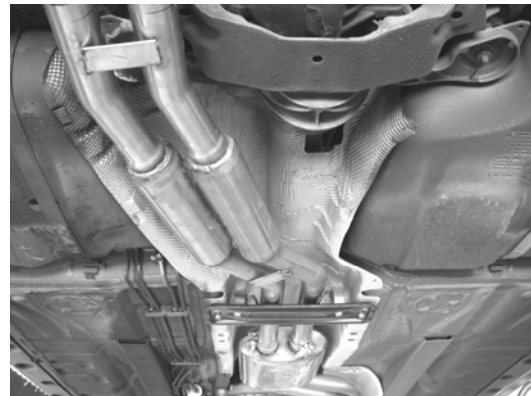

Figure 11
4. Place a clamp over the expanded ends of the mid muffler assembly and place it into position as shown in figure 11. DO NOT tighten the clamps. Using the original hardware, secure the rear center support to the vehicle.